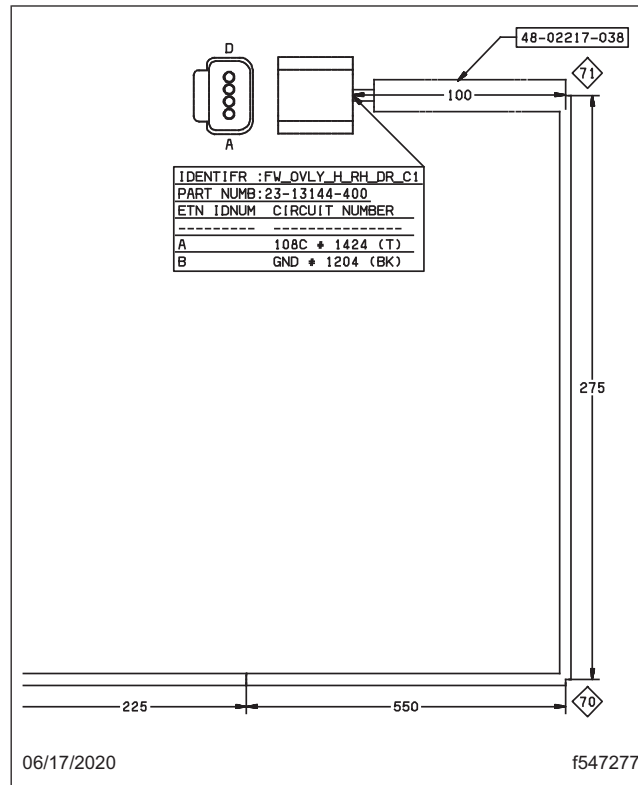

Fig. 9, Circuit Diagram, 4-Pin Connector
9. To access the wires within the A06-67182-000 harness at the 4-pin connector FW_OVLY_H_LH_DR_C1, remove approximately six inches of harness wrap and tape on the frontwall side of the harness. Locate the tan wire (108C). See Fig. 9 for circuit diagram of the 4-pin connector FW_OVLY_H_LH_DR_C1.